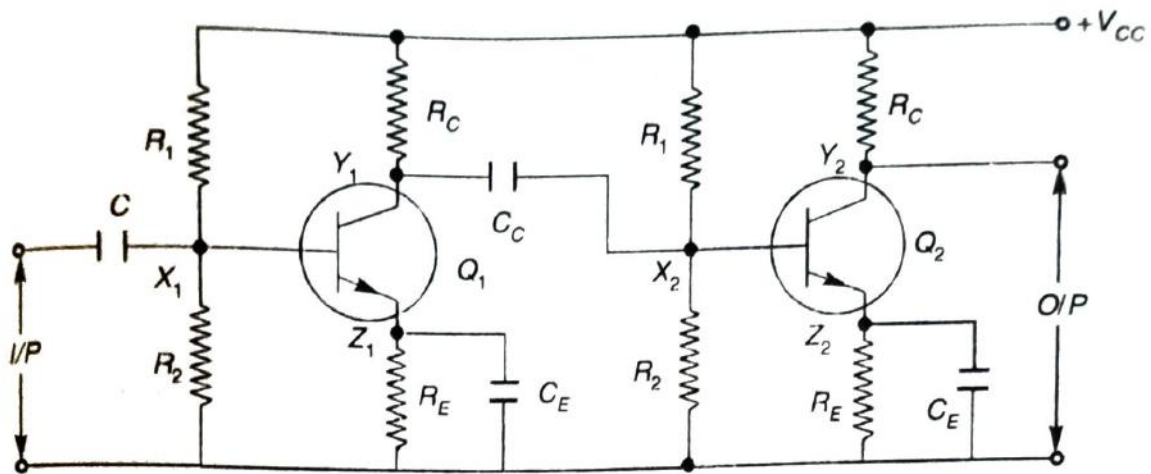

Fig. 6.61 A Two Stage RC Coupled Amplifier
Figure 6.61 shows the two stage RC coupled common emitter amplifier. The two transistors are identical and a common power supply is used.  $R_C$  is the collector (load) resistor. Resistors  $R_1$ ,  $R_2$  and  $R_E$  provide the required bias. The bypass capacitor  $C_E$  prevents loss of amplification due to negative feedback. The output of the first stage gets coupled to the input of the second stage via coupling capacitor  $C_c$  which also serves as the blocking capacitor to keep the d.c. component of the output of the first stage from reaching the input of the second stage.
**Analysis of RC coupled CE amplifier** For finding the response of the RC coupled amplifier, in the three frequency ranges, the transistor  $Q_1$  of Fig. 6.61 is replaced by its high frequency  $\pi$  model yielding the equivalent circuit of Fig. 6.62. Here,  $C_{s1}$  and  $C_{s2}$  represent stray capacitances caused by wiring, proximity of components to chassis etc.  $R_B = R_1 \parallel R_2$  is the biasing resistance of a particular stage.